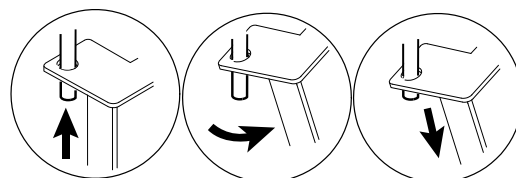

Fig. 9
**As necessary, remove the tray holders from the pin (Fig. 9) and remove them from the cooking compartment.**